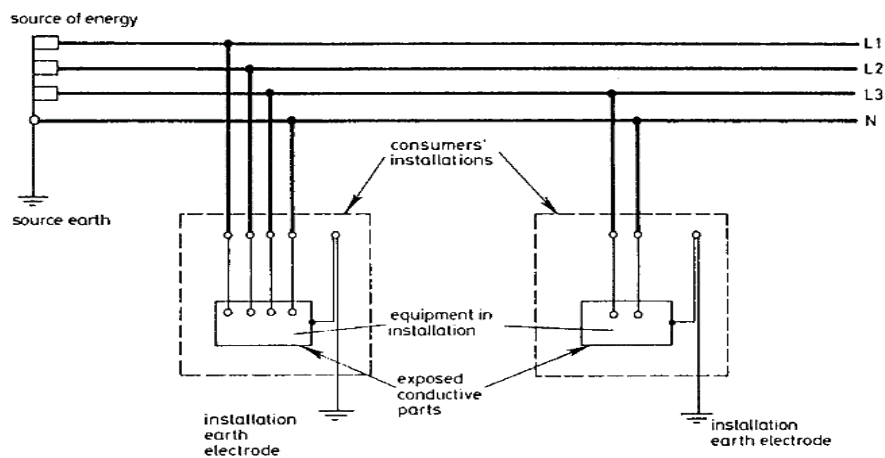

Fig. A1
- A1. a) Fig. A1 shown circuit diagram of a TT system. Suppose you are responsive to the requested by electrical company to modify to a TT and TN-S system, please draw the circuit diagram. (5 marks)